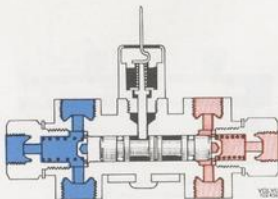

Fig. 5-39. Warning position
It is only when the pressure in the secondary circuit first exceeds that in the primary circuit by about 10 kp/cm^2 (142 psi) that the pistons are pushed so far to the right that the guide pin (4) can be pressed downwards. When this happens, the switch washer (2) reaches the housing (3) and current is cut in (Fig. 5-39). If the circuits are made pressureless, the guide pin is prevented from returning to its normal position. This can happen by screwing out the warning switch (3).